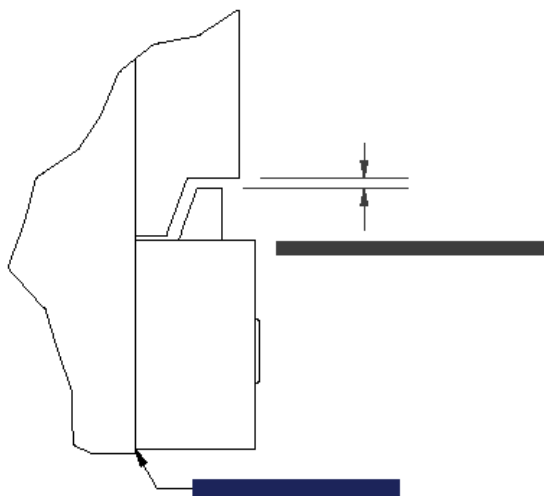

Figure 4-3, Lower Hook Clearance
8. Install the bolt-on lower hooks. Inspect clearance to the carriage on lower hooks. Adjust the lower hooks for a maximum clearance of **3/32"** (see Figure 4-3). Tighten the bolts to **40-50 ft-lbs**.